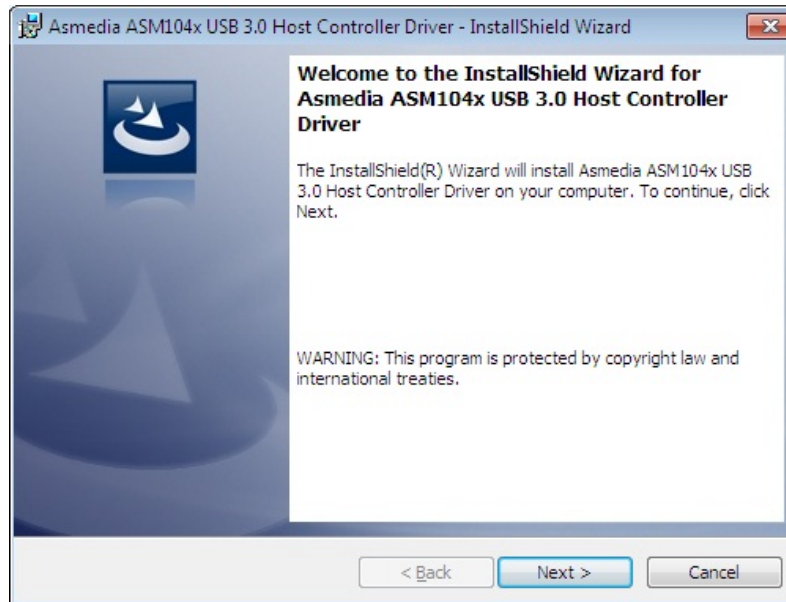

Figure 6-20: USB 3.0 Driver Welcome Screen
Step 4: The **Welcome Screen** in **Figure 6-20** appears.